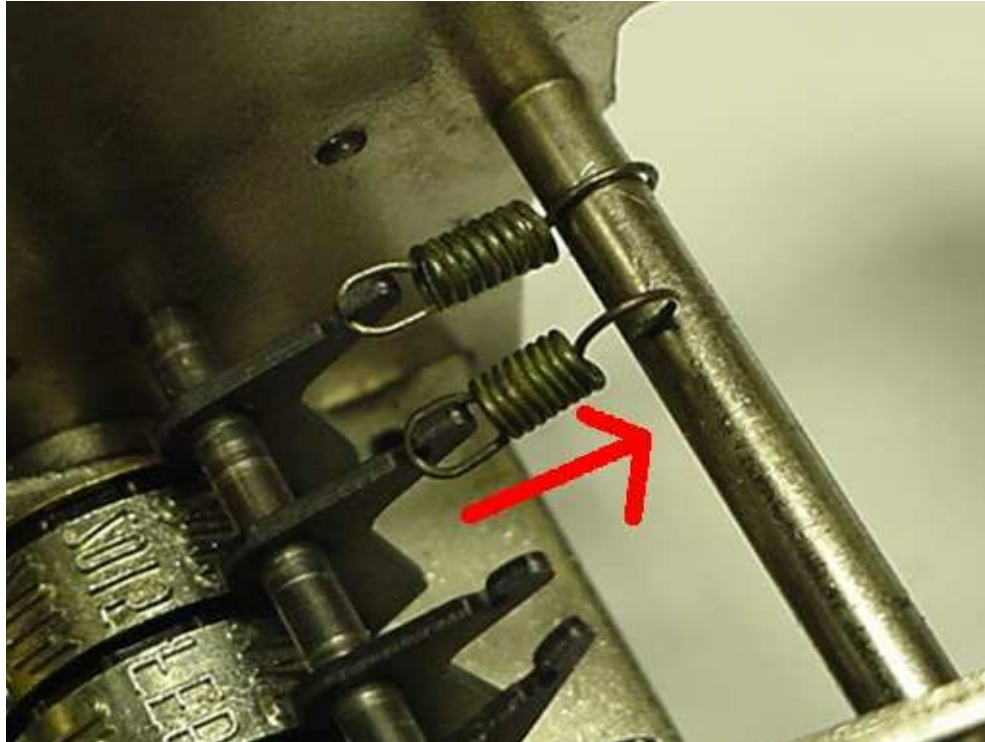

**Fig 19**
**Screw the printing wheel shaft to the frame. And screw the removable die guide lock assembly back to the frame. If this type section has this feature. (fig 19)**